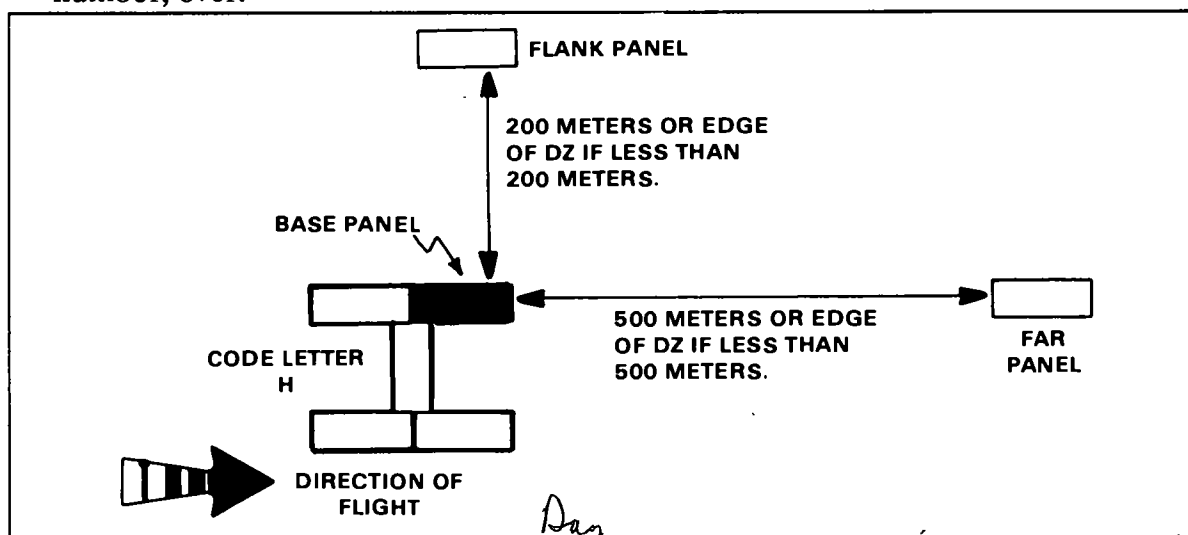

Figure 16-8. Night markings (VIRS).
(4) Both the far and flank panels consist of a single VS-17G panel. These panels may also be elevated at a 45-degree angle to improve visibility.
b. Night DZ Markings (Figure 16-8).
(1) The procedures for establishing the DZ are the same for night operations except that white light is used for the code letter and far/flank markings.
(2) Each code letter is four lights high and three lights wide. There is a distance of 5 meters between each light in the code letter. The far and flank lights are signal lights. Also a